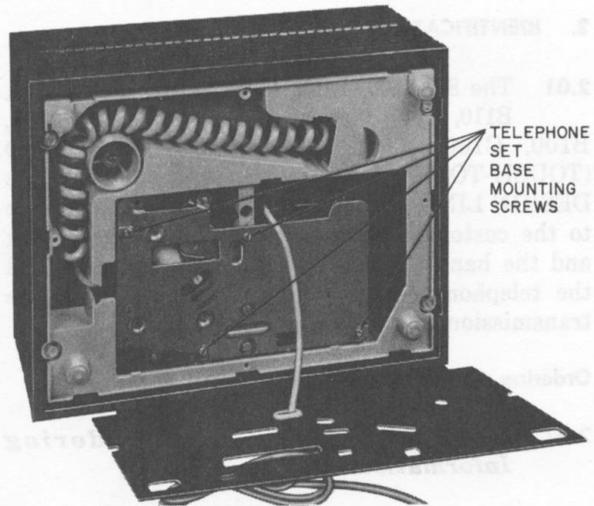

Fig. 5—881A100 or 2881A100 Telephone Set With Bottom Cover Removed
- (3) Pull cord, attached to the handset, out through the top of the telephone set base.
- (4) Remove four telephone set base mounting screws and withdraw the base (Fig. 5).